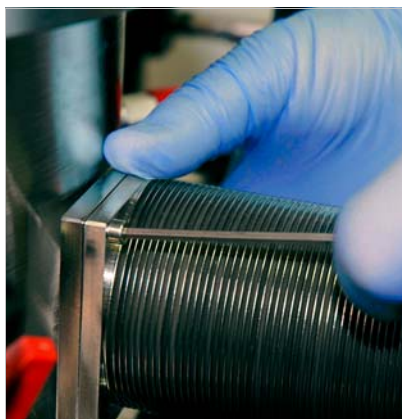

FIGURE 5-3 *Loosely tighten two M4 screws to begin securing the bellows to the chamber*
- a. Loosely tighten two of the M4 screws on diagonally opposing sides that attach the bellows to the chamber (FIGURE 5-3).